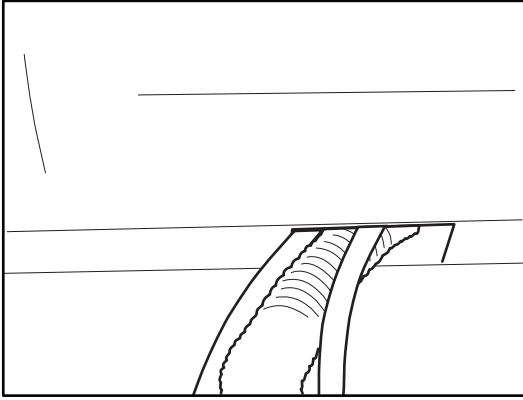

Figure 15. Vac Pac umbilical tubing exits through notched cut-out in front of the seat.
7. **Routing the Vac Pac umbilical into the umbilical duct hose.** *Please refer to figure 15 & 16.*